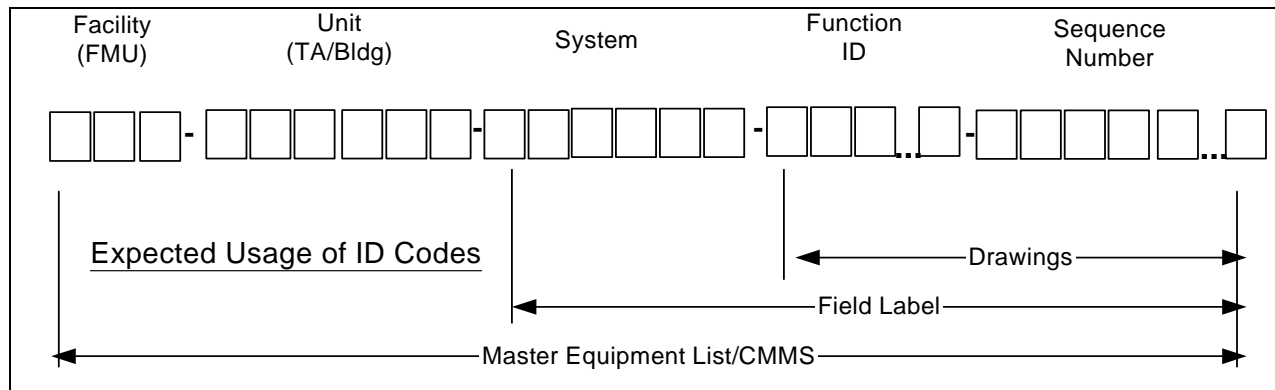

Figure 200-1 - Identification Code
- A. The component location identification (CLI) code or number shall be composed of three fields designated as “Field Label” in Figure 200-1 (System, Function ID, and Sequence Number).1 Note: In the PassPort database, labwide uniqueness is achieved by the entry of this CLI for a given Facility (FM or FMU) and Unit (TA+Bldg).